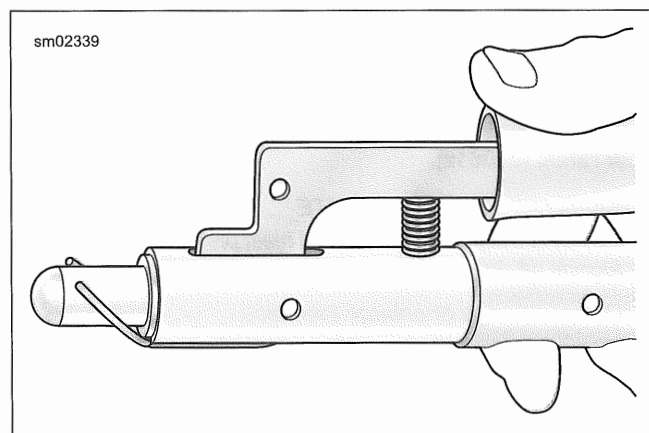

Figure 4-41. Aligning Retaining Ring
- a. See Figure 4-41. Slide retaining ring down nose of tool until it contacts claw.
3. See Figure 4-41. Install **new** retaining ring using PISTON PIN RETAINING RING INSTALLER (PART NUMBER: HD-51069-2) with NOSE ADAPTER (PART NUMBER: HD-51069-17).